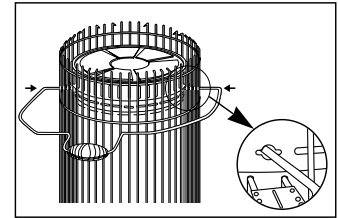

Fig.6
**D) INSTALLING CARRYING HANDLE:** (Fig.6)